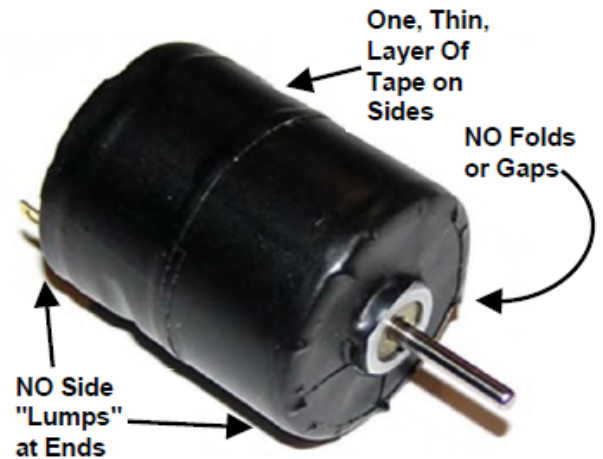

Figure 2.1-2: Properly Sealed Motor
5. Repeat Steps 2 and 3 for the other motors. The sealed motors should look like the one in Figure 2.1-2.